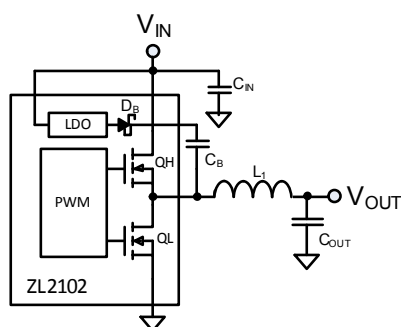

FIGURE 8. STEP DOWN CONVERTER
9. Refer to Safe Operating Area in Figure 8 and thermal design guidelines in AN2010.
The ZL2102 operates as a voltage-mode, synchronous buck converter with a selectable constant frequency pulse width modulator (PWM) control scheme. The ZL2102 integrates dual low  $r_{DS(ON)}$  synchronous MOSFETs and a high-side driver to minimize the circuit footprint. Figure 8 illustrates the basic synchronous buck converter topology showing the primary power train components. This converter is also called a step-down converter, as the output voltage must always be lower than the input voltage.